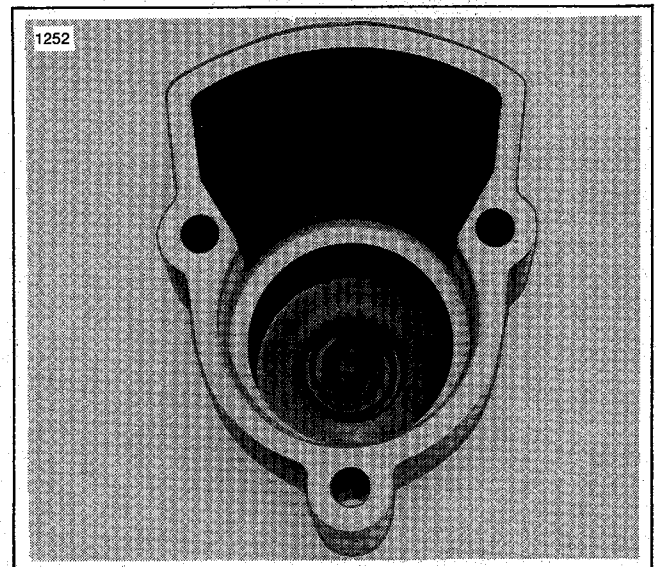

Figure 2-22. Lube Spring
- Clean caliper cover and lubricate self-adjusting spring (Figure 2-22) with all purpose grease.